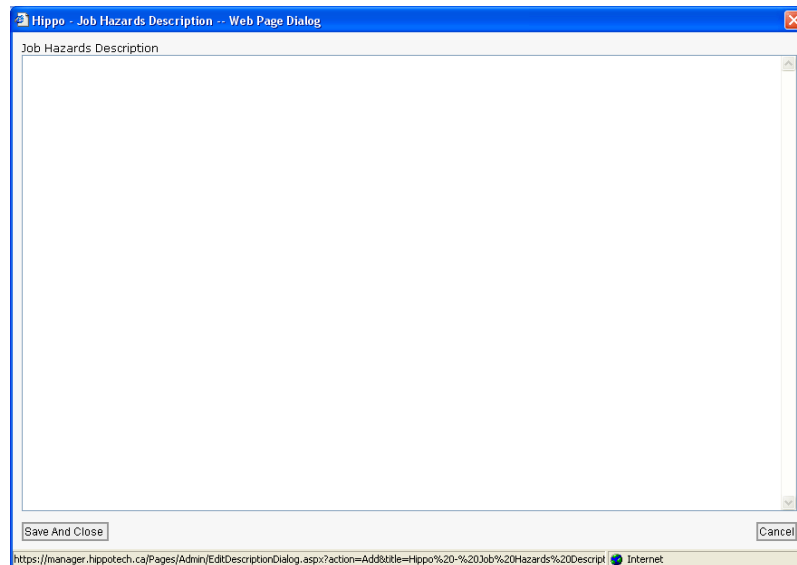

Figure 40: Job Hazards Description
- c. Job Hazard List (click the **edit job hazard list** to edit this work order's job hazard list (See Figure 40))